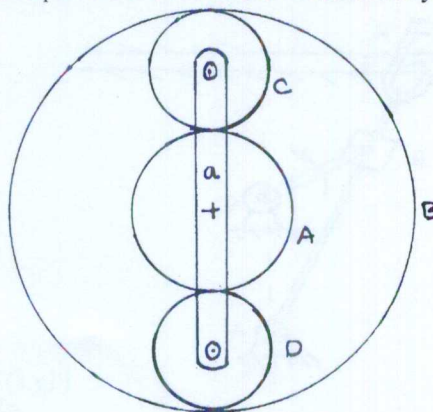

Fig.Q6(a)
- 6 a. An epicyclic gear train is shown in Fig.Q6(a). The number of teeth on A and B are 80 and 200. Determine the speed of the arm a :